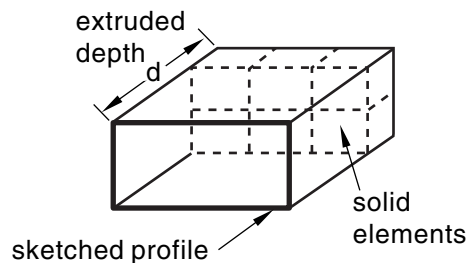

Figure 11–15 An extruded solid feature.
- To create an extruded solid feature, you extrude the profile through a specified distance (d), as shown in Figure 11–15.
In addition, you can apply either draft or twist to the extrusion, as shown in Figure 11–16. You define the draft angle for an extrusion with draft or the center of twist and the pitch (the extrusion distance in which a 360° twist occurs) for an extrusion with twist. Select **Shape**→**Solid**→**Extrude** from the main menu bar to create this type of feature.